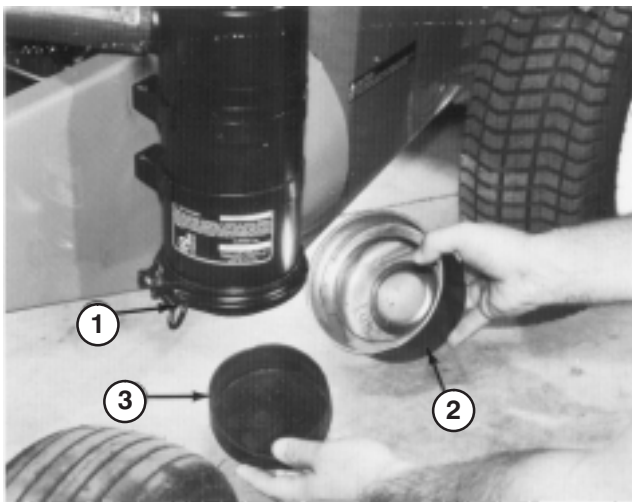

Figure 30
1. Loosen thumb screw until dust cup and baffle can be removed (Fig. 30). Separate dust cup and baffle (Fig. 30).